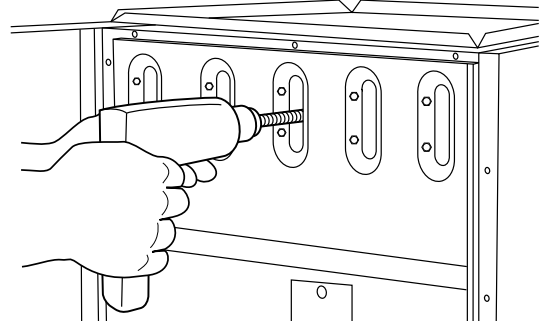

Fig. 52 – Cleaning Heat Exchanger Cell
- (2.) Insert brush end of cable into the outlet opening of cell and slowly rotate with drill, see Fig. 52. **DO NOT** force cable. Gradually insert cable into upper pass of cell.